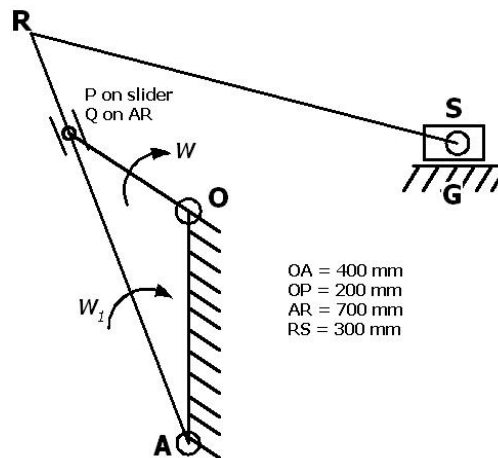

Fig. 1
- Q.3** (a) Fig. 1 shows the link mechanism of a quick return mechanism of the slotted lever type. **07**
- (b) For the mechanism shown in Fig. 1 (Q-3, a), draw acceleration diagram and find out **07**